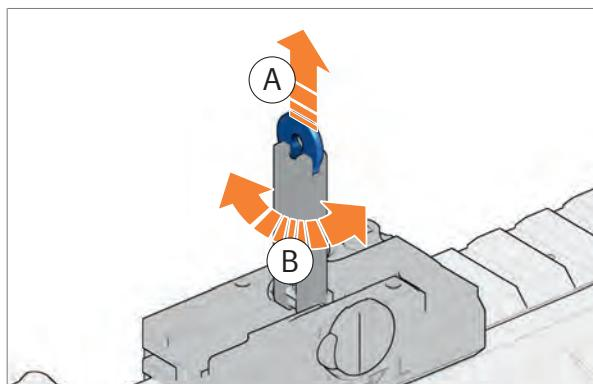

Fig. 78: Turning the dioptre
1. Raise dioptre (Fig. 78). 2. Turn dioptre in direction "D" (Down) (Fig. 78).	Half a turn changes the point of impact by approx. 4 cm at a range of 100 m.
1. Raise dioptre (Fig. 78). 2. Turn diopter in direction "U" (Up) (Fig. 78).